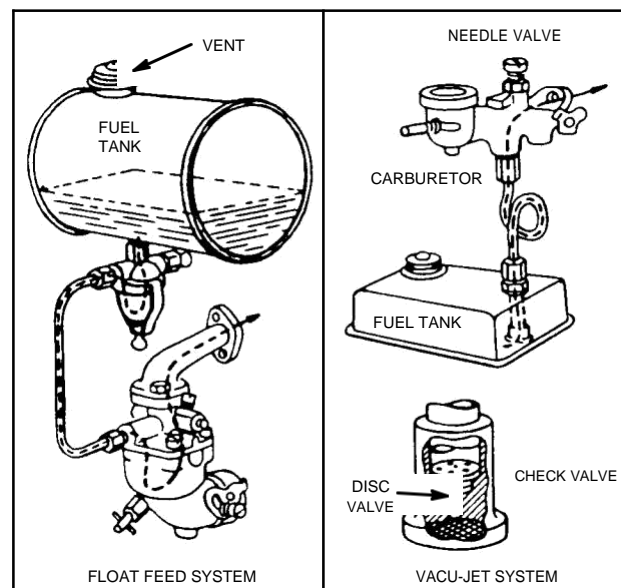

Fig. 123 – CARBURETORS
Three fuel supply systems are used on Briggs & Stratton engines: (1) Float Feed (Flo-Jet), (2) Vacu-Jet, and (3) Pulsa-Jet Fig. 123. The float feed system has the fuel tank above the carburetor level and the flow of fuel is controlled by the float and inlet valve in the carburetor. When the carburetor is fed by a fuel pump, the fuel tank can be mounted above or below the carburetor, the pump lift capacity being the only limit. Vacu-Jet or Pulsa-Jet have the fuel tank below the carburetor and in most instances, the flow of fuel is controlled by a tank outlet (check valve) in the fuel tank. It is important that all parts be clean and free from dirt, gum, or varnish in order to operate properly. Use acetone or alcohol to remove gum or varnish.